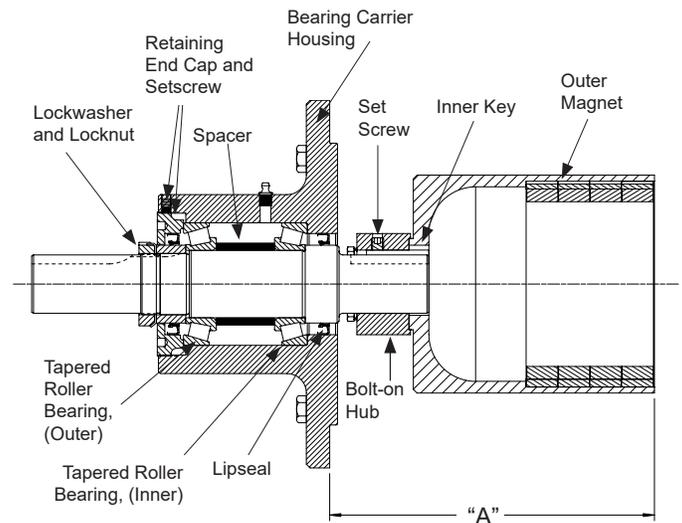

FIGURE 14
The bearing carrier for the MD2 C coupling features two tapered roller bearings secured by a threaded end cap. The unit is greased externally using the grease fitting. If further disassembly is required, reference **Figure 8 on page 7 and Figure 14**, then proceed as follows:
4. One lip seal is pressed into the end cap and the other is pressed into the bearing housing. Do not remove the lipseals unless they require replacement. If removed, pay close attention to the orientation as shown in **Figure 14** when installing the new lip seals.
Depending on the condition of the bearings, either replace or repack existing bearings by cleaning and packing with multi-purpose NLGI # 2 grease. Replace the lip seals if necessary. See Figure 14, page 9 for lipseal orientation.